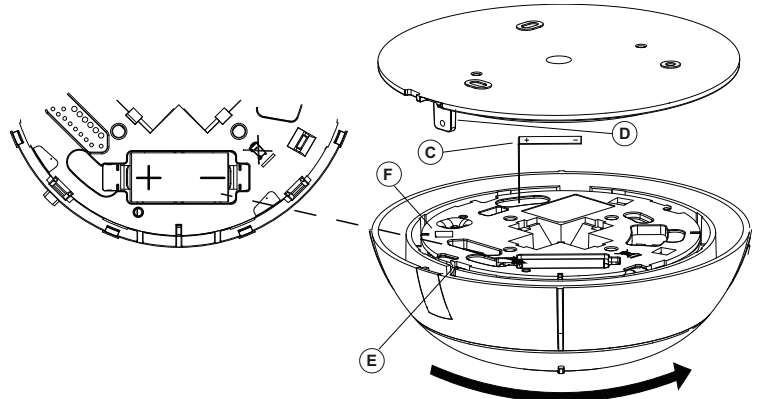

Figure 6. Attaching the detector
4. Fasten the detector to the bracket with the screw (see Figure 6).